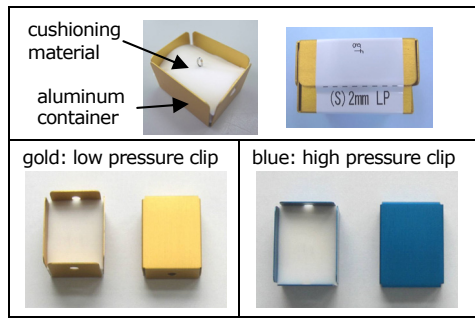

Fig. 2
- Anastomosis Clip is placed in color-coded aluminum container (gold for low pressure clip, blue for high pressure clip) with cushioning material (silicone sponge), and the container is sealed with a product label (Fig.2).